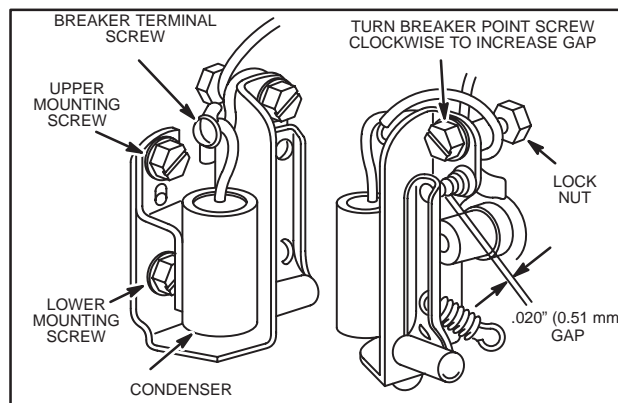
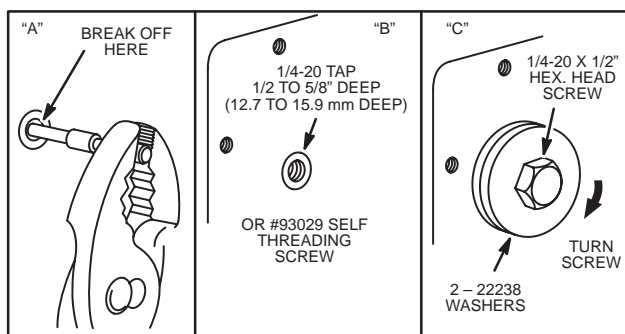
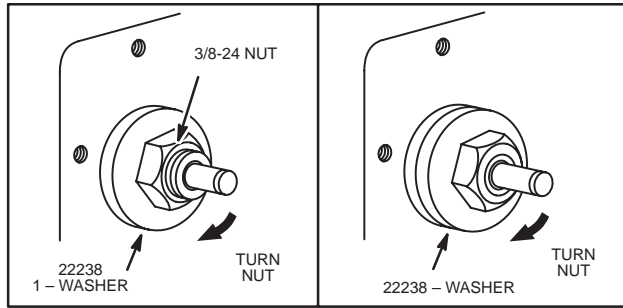

Fig. 57 – REMOVING BREAKER POINTS
Fig. 60 – REMOVING BUSHING AND PLUNGER
Fig. 64 – INSTALLING BUSHING AND PLUNGER
4. Loosen lock nut and turn point adjustment screw counterclockwise to remove breaker points, Fig. 57.
Remove breaker box cover, condenser, and breaker assembly, Fig. 57. Pull breaker plunger out as far as possible. Use a pair of pliers to break plunger off as close to bushing as possible, Fig. 60, Ill. "A". Tap plunger bushing with a 1/4-20 tap or self-tapping screw, Part #93029 1/2 to 5/8" (13 to 16 mm) deep, Fig. 60, Ill. "B".
Use a 1/4-20 x 1/2" long hex head screw and two spacer washers, Fig. 60, Ill. "C" to pull bushing out of the cylinder. The bushing will be free when it has been pulled 5/16". (7.9 mm) CAREFULLY remove the bushing and broken plunger. DO NOT allow the plunger or chips to fall into the crankcase.
Remove breaker box cover, condenser, and breaker assembly, Fig. 57. Place a thick 3/8" inside diameter spacer washer, such as Part #22238, over the end of bushing and screw on a 3/8-24 nut, Fig. 64, Ill. A. Tighten nut to pull bushing. After the bushing has moved about 1/8", remove the nut and put on a second washer, Fig. 64, Ill. B. Reinstall nut and continue to turn nut until bushing is free.